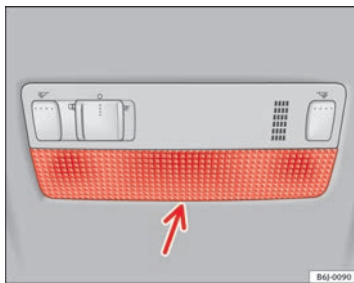

Fig. 166 Front reading light
- Insert a fine screwdriver between the casing and the glass ⇒ fig. 166.